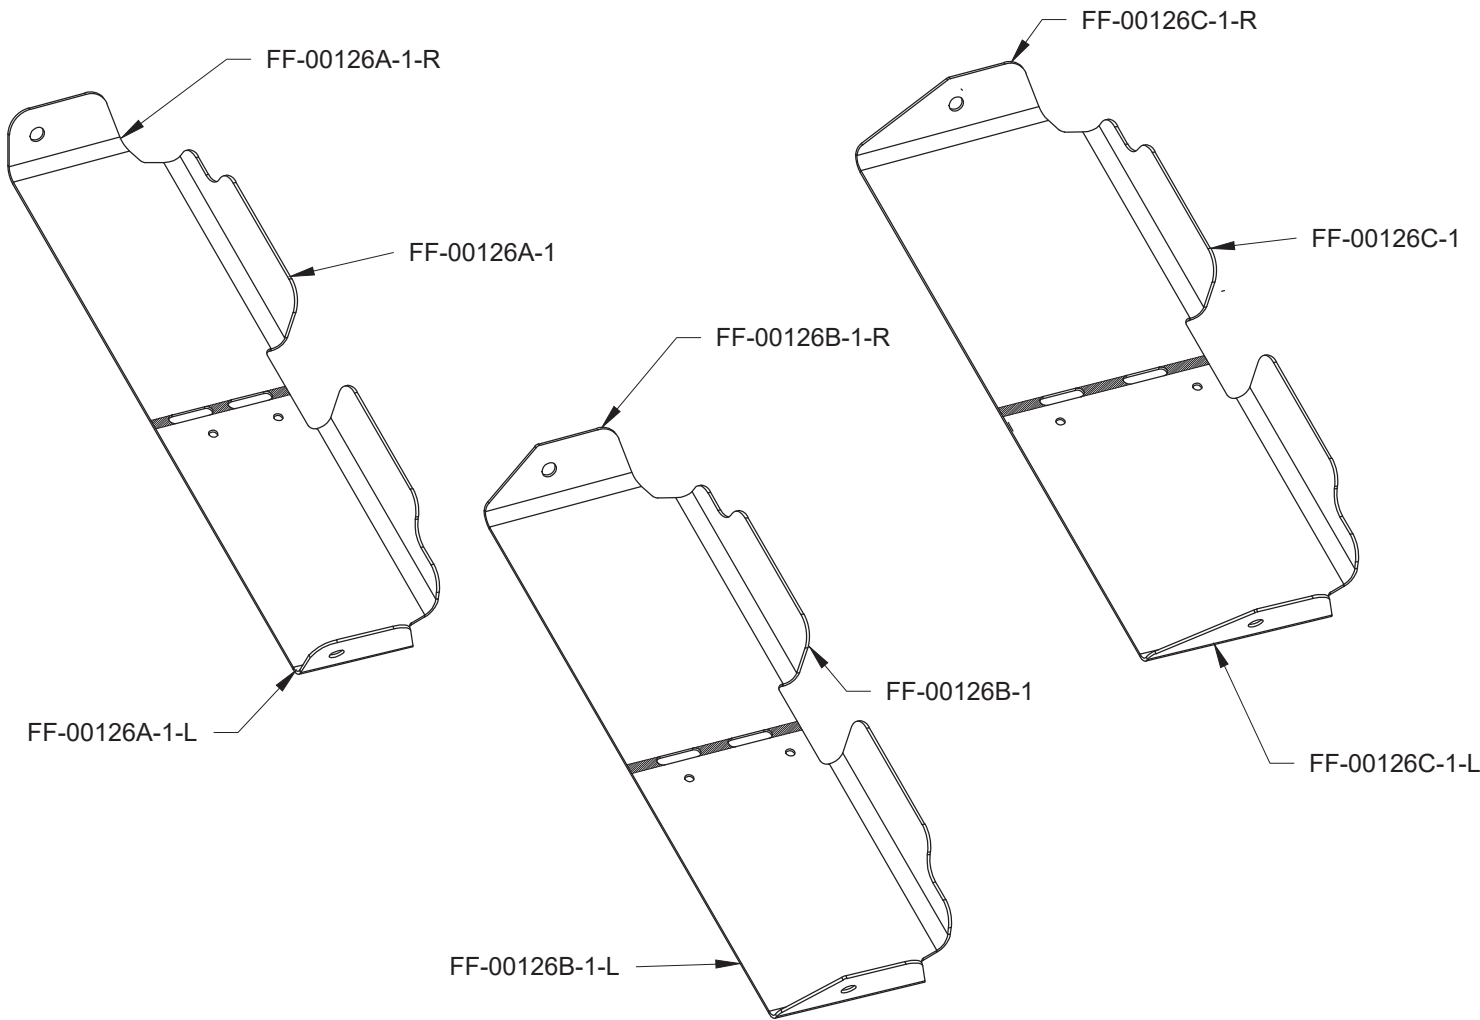

FIGURE 1: SEPARATING THE COVERS
Step 1: Separate and deburr the FF-00126A-1-L & -R, F-00126B-1-L & -R, and F-00126C-1-L & -R Oil Cooler Covers. See Figure 1.